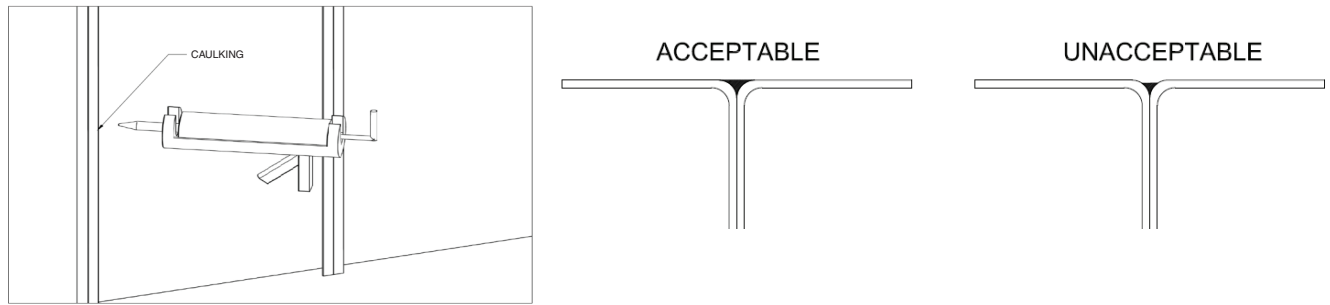

Fig. 7 — Caulking Roof Exterior Seams
- Caulk exterior roof seams. See Fig. 7.